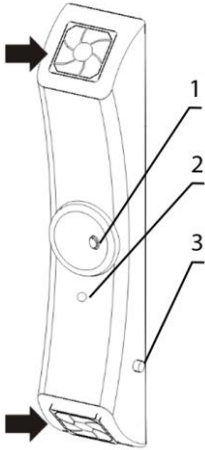

Figure 4. UVR-M overview
- 5.1.1. Plug the power cord into a grounded mains socket. Switch on the power switch (fig. 4/1).
- 5.1.2. Unit starts the recirculator automatically. Lit indicator (fig. 4/2) shows that the UV lamp is working.
- 5.1.4. **Lamp failure.** In case of UV lamp failure, unit terminates operation and does not resume until the lamp is replaced. Check the indicator (fig. 4/2) to see if the lamp is working. To replace the lamp, see **8.6**.
8.3. **Dust filter control/replacement.** The dust filters on either end of the UV-recirculator should be checked monthly and cleaned or replaced when they become clogged. To check, replace or clean the filters, simply unclip the covers (fig. 4/◆), if necessary, fit a new one; otherwise rinse in water, dry and set up existing filters. Clip covers back in place. This maintenance operation is performed by the user.
8.6. **UV-lamp replacement.** Replacement must be performed only by qualified and specially trained personnel. UV lamp replacement is necessary after lamp stops functioning or at the end of manufacturer specified lifetime. Use the indicator in the centre of recirculator (fig. 4/2 or 5/8) to check UV lamps inside the recirculator. If the indicator is alight while the switch is ON, then the UV lamps are functioning. If it is not, replace the lamp, single lamp in case of **UVR-M**, both - in case of **UVR-Mi**.
8.7. **Fuse replacement.** Replacement must be performed only by qualified and specially trained personnel. Disconnect the unit from the mains and unscrew the fuse holder cap (fig. 4/3 or 5/10). Check the fuse and replace if necessary with a correct one.